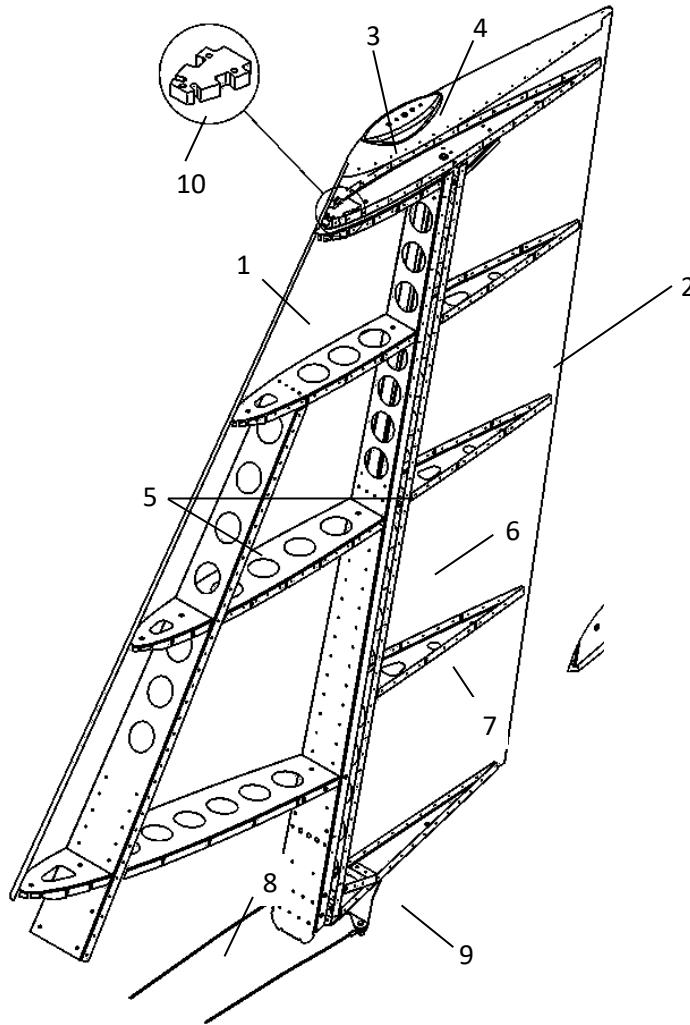

Figure 30: Vertical tail and rudder.
Refer to Figure 30. The vertical (1) stabiliser and rudder (2) consist of all-metal light alloy structures. The rudder horn (3) extends to the vertical stabilizer leading edge and has a composite tip on which navigation lights (4) and an aerial may be fitted. The vertical stabiliser consists of twin spars (5) with wrap-around stressed skin panelling. An attachment plate secures the vertical stabiliser's front spar to a bracket attached to the penultimate tail cone rib. The rudder consists of a spar (6) with formed sheet metal ribs (7) and sheet-metal skin. The rudder rotates / deflects around three hinges. Rudder control is effected by steel cables (8) attached to a control horn (9) on the bottom edge of the rudder and running (with a cross-over) to two control horns attached to the rudder pedal axles. Rudder mass balancing (10) is placed under the leading edge of the rudder horn, on the top rudder rib.